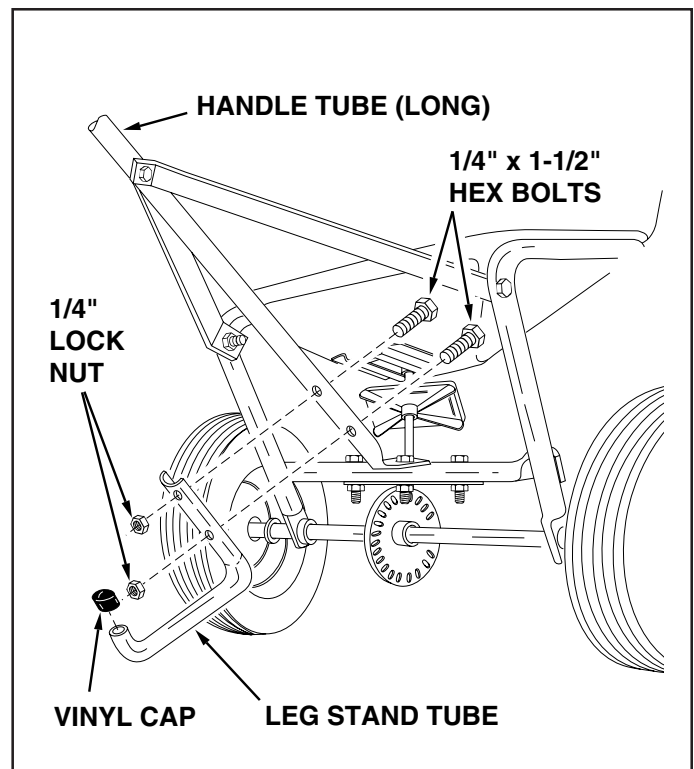

FIGURE 8
13. Assemble the leg stand tube to the handle tube (long) using two 1/4" x 1-1/2" hex bolts. Secure tightly with two 1/4" hex lock nuts. See figure 8.
14. Place a vinyl cap over the end of the leg stand tube. See figure 8.